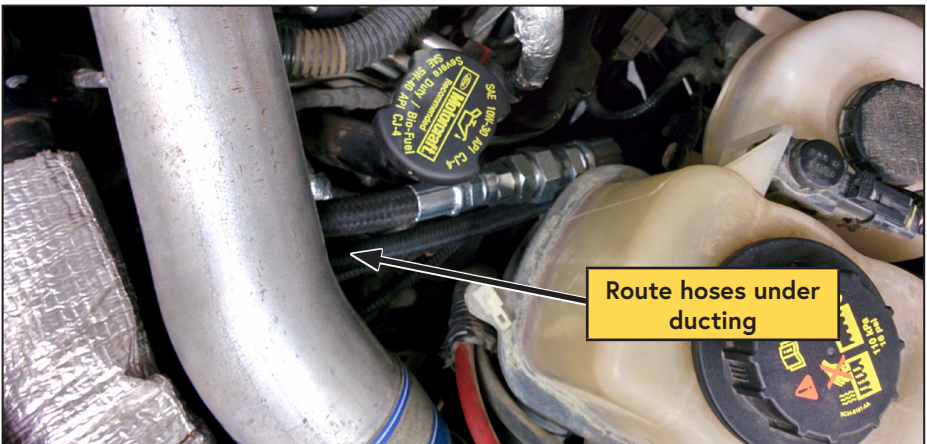

Figure 24 — VMAC hose routing
- Route the hoses and PTFE under the OEM Charge Air Cooler (CAC) tubing. Avoid the OEM vacuum lines, electrical harnesses, upper radiator hose, and the oil fill cap. The hoses should reappear near the coolant reservoir on the driver side of the engine bay (Figure 24).